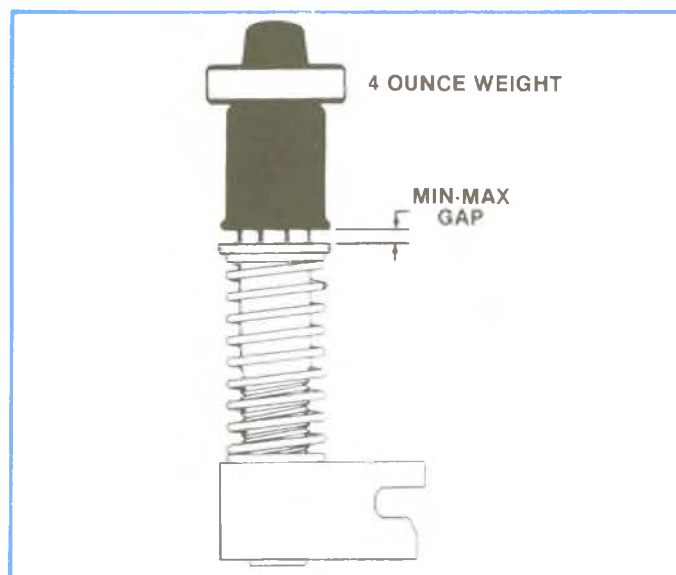

Figure 7-9
- Check for excessive min-max gap on pumps equipped with internal low idle springs. (See Figure 7-9).